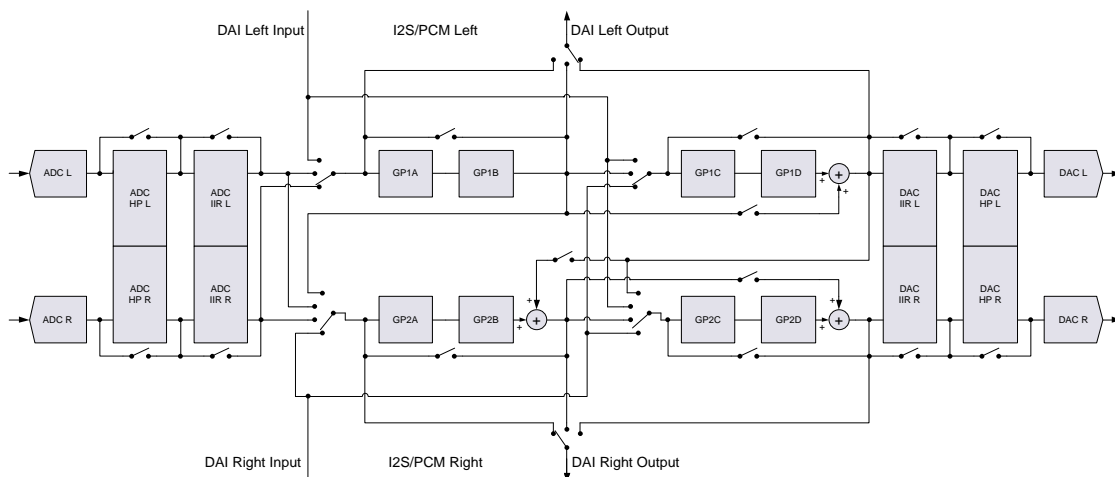

Figure 15: Digital Signal Processing Engine (Simplified Block Diagram)
A digital high pass filter for each DAC channel is implemented (configurable by control DAC_HP_F0 (address 0x14, Table 56) that can be enabled via control DAC_HP_EN (address 0x14, Table 56, see blocks 'DAC HP' in Figure 15). After Reset, the high pass filters for both channels are enabled by default.
The digital signal processing engine includes a configurable audio processor that offers flexible routing and extensive audio enhancement and effects. Linear phase FIR filters perform the interpolation and decimation for the required sigma-delta sample rates. Configurable high-pass filtering (optionally enabled) removes any signal DC offset (see blocks 'ADC HP' and 'DAC HP' in Figure 15) and offers 5-band equalisation during recording and sound playback.
Alternatively it can provide dedicated voice band filtering at samples rates ≤ 16 kHz (see blocks 'ADC IIR' and 'DAC IIR' in Figure 15).
An additional general purpose (GP) filter engine offers up to eight second-order biquad filter stages with configurable 16-bit coefficients, and supports flexible digital audio routing and mixing arrangements. Figure 15 shows some possible routings (a subset of the available settings) for filter blocks GP1A to GP2D with the related control registers. Typical use cases with example configurations are explained in the section 8.3.
To allow user-specific sound control, the recording path includes a programmable 5-band equaliser (combined in the ADC IIR blocks in Figure 15). This is enabled using control ADC_EQ_EN (address 0x13, Table 55).